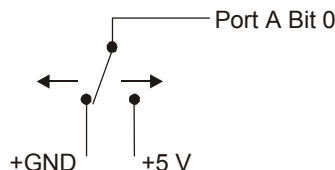

Figure 3-2. Schematic showing switch detection by digital channel Port A0
When configured for input, you can use the USB-DIO24H/37 digital I/O terminals to detect the state of any TTL level input. Refer to the schematic shown in Figure 3-2. If you set the switch to the +5 V input, Port A0 reads TRUE (1). If you move the switch to GND, Port A0 reads FALSE.